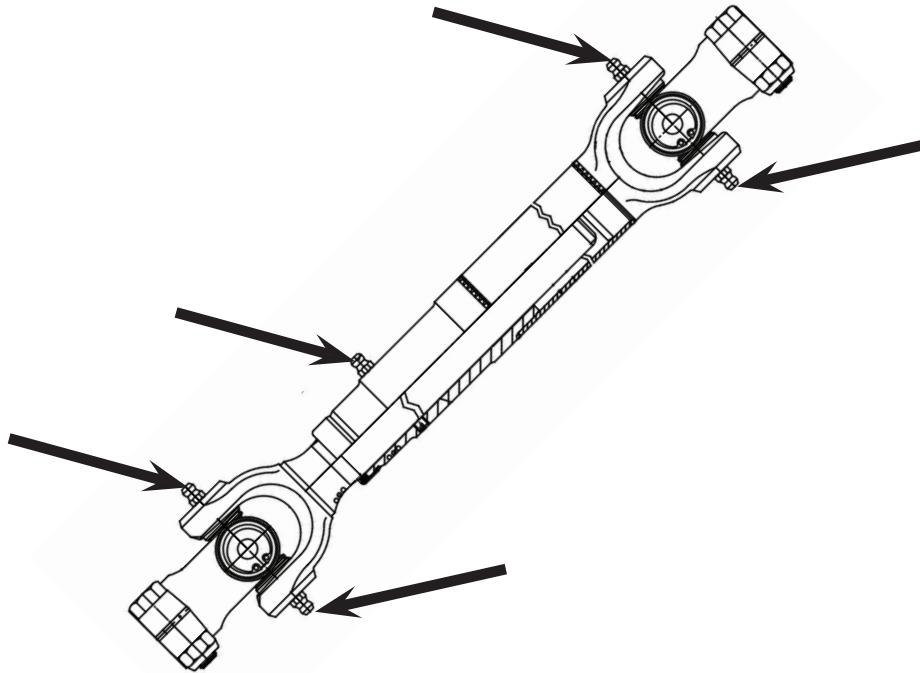

Figure 2. Zerk Fittings on Drive Shaft
- Grease drive shaft U-joints (Drive Shaft Maintenance, Figure 2). Inspect for wear.
Every 300 operating hours, apply lubricant to the drive shaft's zerk fittings at clutch and blower flange U-joints, in hot climates (conditions above 95° F) lubricate the drive shaft every 250 operating hours (see Figure 2).